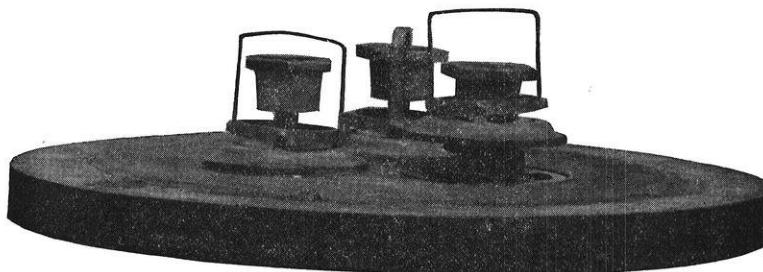

FIG. 3.
The valves were placed upon the seats as shown in Fig. 3, and were held open by rubber washers placed between the top of valve (A) and stud (B). To insure constant opening at all times, a block of wood was wedged between the top of the stud and the yoke (Y).